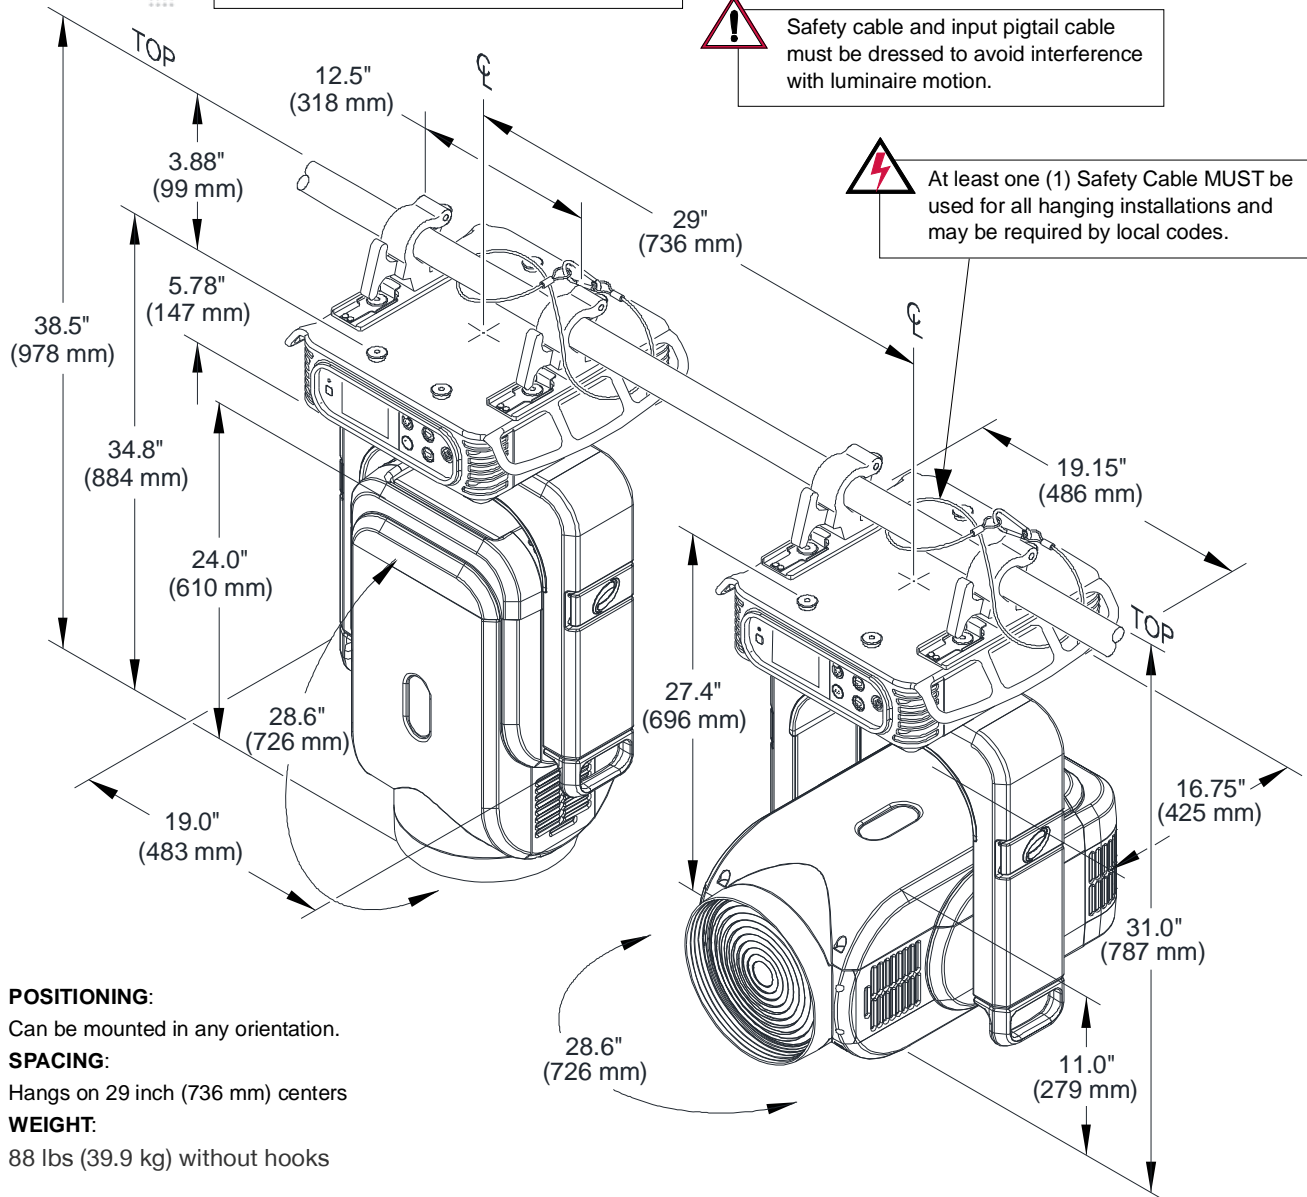

Figure 2-6: Standard Hanging Configuration and Dimensions
- Step 4. Secure in place by tightening Truss Hook wing bolts (**Figure 2-6**). Ensure that luminaire is fully supported.
- Step 5. Feed safety cable through base and secure around pipe as shown in **Figure 2-6**.
**CAUTION:** Before applying power, be sure the luminaire is hung or positioned so that the head and yoke can move freely without restriction. Refer to clearances in Figure 2-6 on page 16.